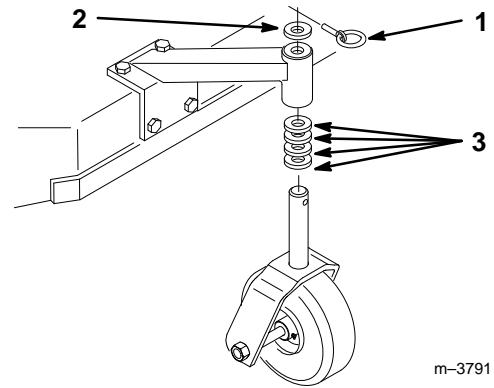

Figure 21
1. Using the height-of-cut chart, adjust the caster spacers to match with the axle hole selected (Fig. 21).
2. Remove clevis pin, slide caster from support and change spacers(Fig. 21).
3. Install caster in support and insert clevis pin(Fig. 21).